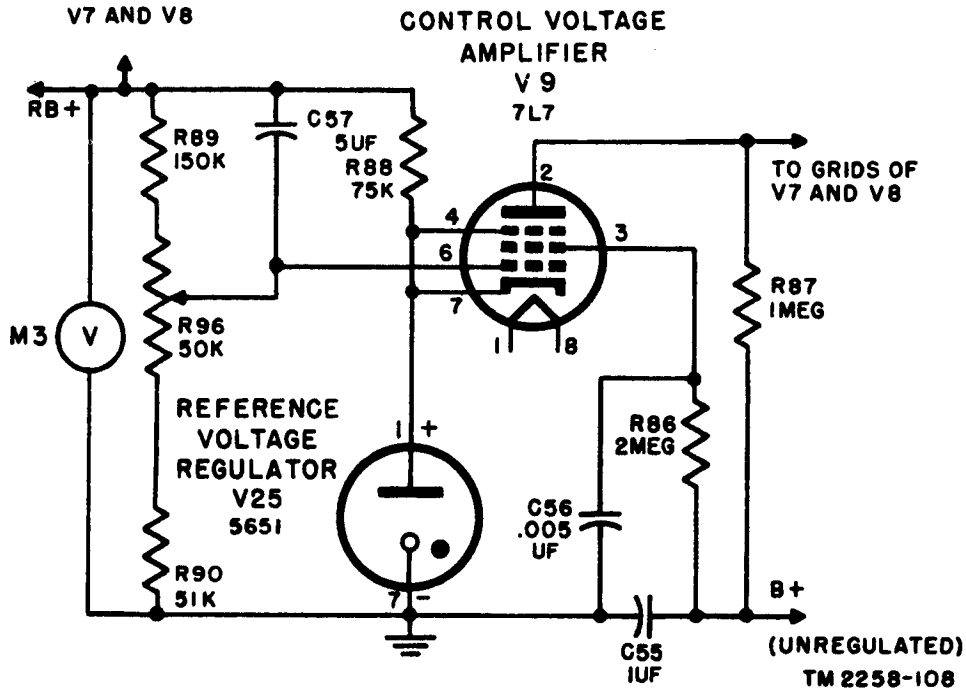

Figure 65. Control voltage amplifier, RB+ circuit, Facsimile Transceivers TT-1B/TXC-1, TT-1C/TXC-1, TT-1D/TXC-1, TT-1E/TXC-1, and TT-1F/TXC-1.
d. The B+ voltage regulator circuit in Facsimile Transceivers TT-1B/TXC-1 through TT-1F/TXC-1 (fig. 65) operates in the same manner as that described above. However, potentiometer R96 has been inserted into the grid circuit of stage V9 to permit easy control of the output voltage and to eliminate the necessity of shunting R90 with R90A to obtain the correct voltage.
Potentiometer R96 is located on the regulated B+ voltmeter M3 (fig. 65), which is also a component only of Facsimile Transceivers TT-1B/TXC-1, through TT-1F/TXC-1. The value of R88 has been modified so that it still provides minimum stabilization current for the reference voltage regulator tube V25.